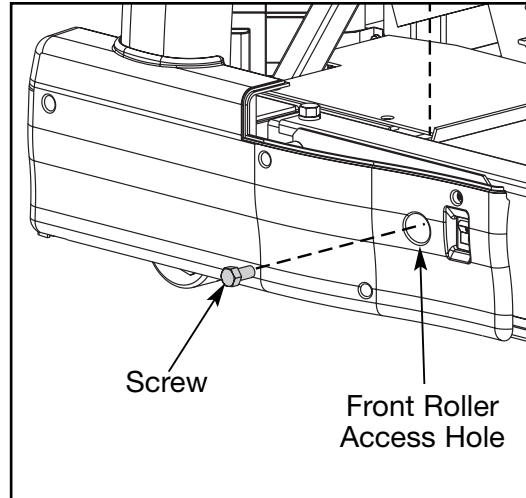

Figure 9
- B. Place a 9/16" socket wrench with a 3" extension in the right front roller access hole. Loosen but do not remove the right front roller screw. See Figure 9. **NOTE:** The right screw will stay on the front roller. You do not need to remove it for this procedure.
- C. Place a 9/16" socket wrench with a 3" extension in the left front roller access hole. Remove the left front roller screw. See Figure 9. **NOTE:** Leave the front roller in place until step 9C.
- B. Using a 9/16" socket wrench with a 3" extension, insert the two screws that fasten the front roller to the frame. **NOTE:** Tighten each of the two screws evenly, making sure not to tighten one screw too many turns before moving to the other screw. See Figure 9.